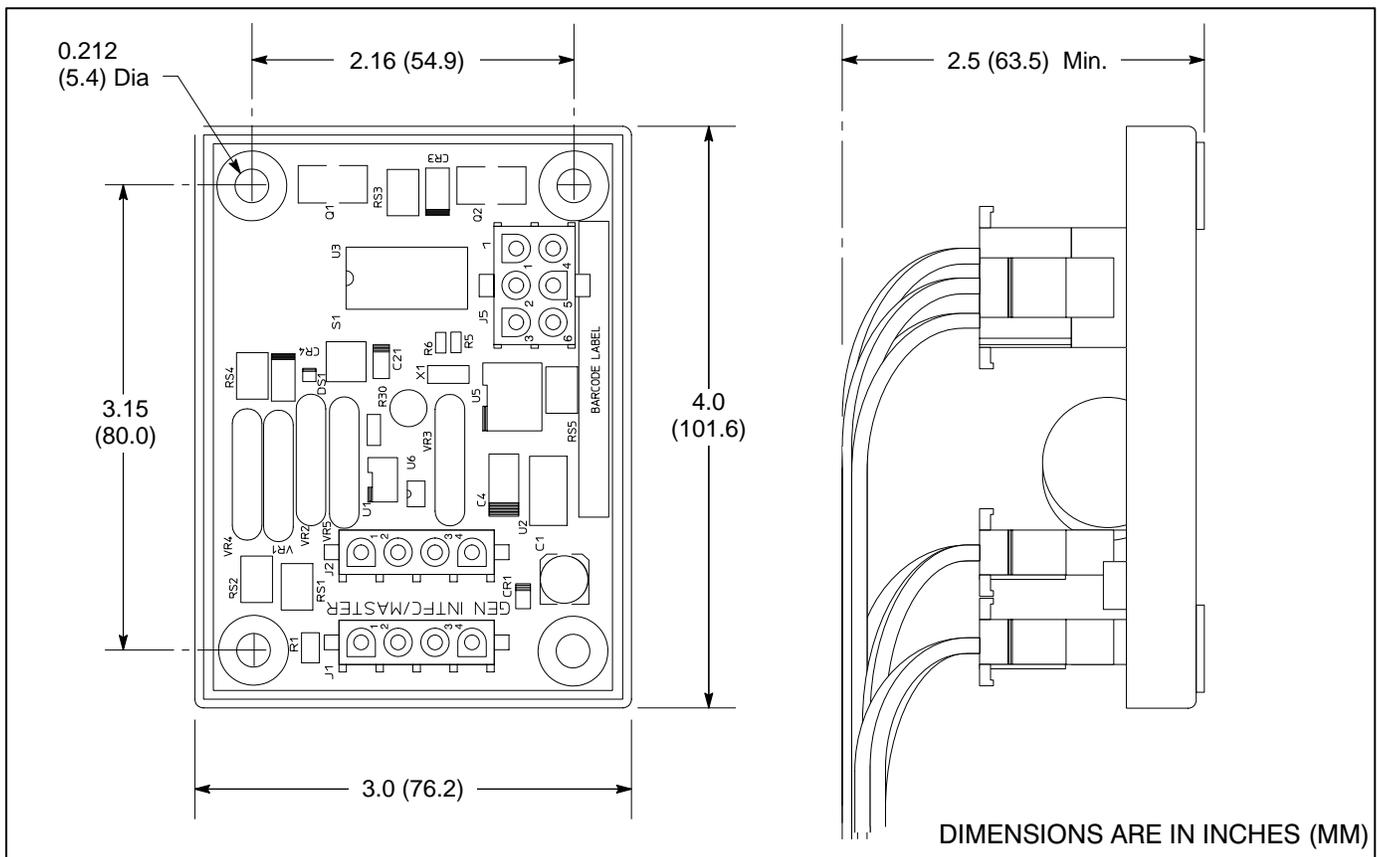

FIGURE 5-1. MASTER NODE
1. Choose a location that provides adequate clearance for the communications cable (see Figure 5-1).
2. Drill mounting holes as shown in Figure 5-1.